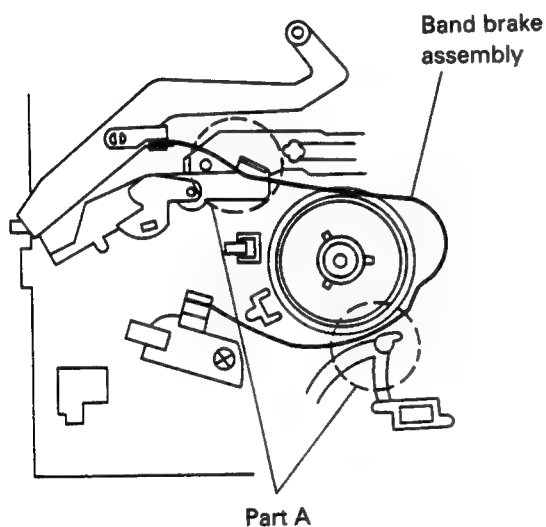

Fig. 1-23-2
Thread the band brake assembly as shown in Figure 1-23-2. Always perform the tension regulation arm position adjustment described under item 1-23.
- (3) Make sure the band brake assembly is threaded as shown in Figure 1-23-2. Particularly paying attention to the part "A".